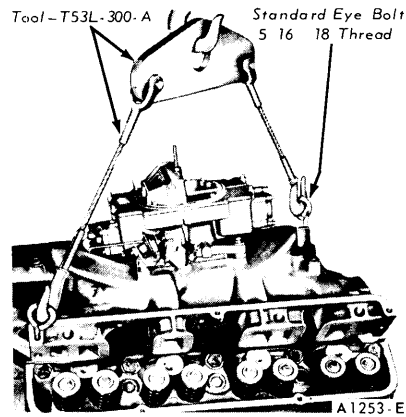

FIG. 17—Intake Manifold Removal or Installation
14. Install standard eye bolts with $\frac{5}{16}$ -18 threads in the left front and right rear rocker arm cover screw holes. Attach the engine lifting sling (Fig. 17).
5. Install the eye bolts in the intake manifold and attach the engine lifting sling. Carefully lower the intake manifold on the engine (Fig. 17) and at the same time engage the coolant outlet nipple with the water pump bypass hose.